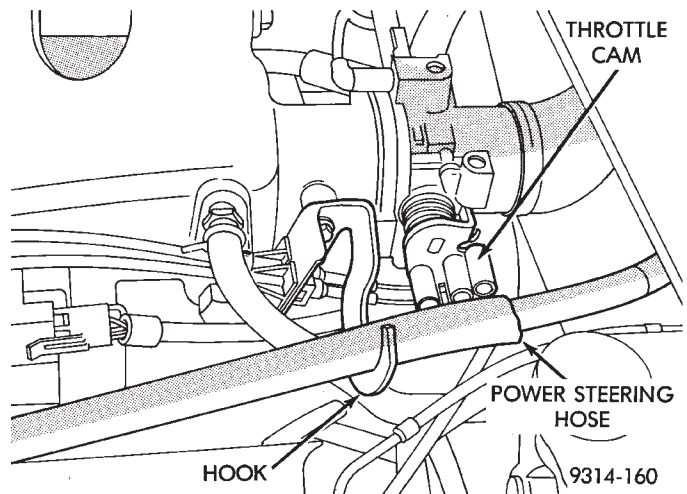

Fig. 7 Power Steering Hose and Bracket—3.5L Engine
(5) From the engine compartment, rotate the throttle lever to wide open and install the throttle cable. On 3.5L engines, ensure the power steering hose is routed through the hook on the throttle cable mounting bracket (Fig. 7). Make sure the throttle cam and power steering hose do not bind.